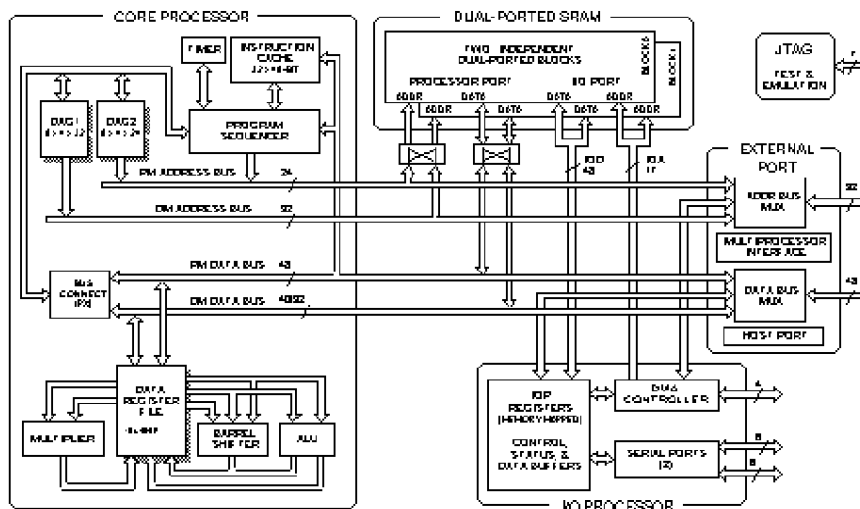

Figure 1 ADSP-21061L Functional Block Diagram
Figure 1 shows a block diagram of the ADSP-21061L, illustrating the following architectural features:
The ADSP-21061L features an enhanced Harvard architecture in which the data memory (DM) bus transfers data and the program memory (PM) bus transfers both instructions and data (see Figure 1). With its separate program and data memory buses and on-chip instruction cache, the processor can simultaneously fetch two operands and an instruction (from the cache), all in a single cycle.